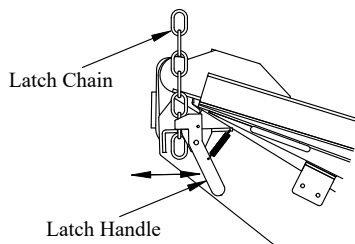

Figure 17: Platform latch chain.
10. **Verify** proper latch chain operation (Figure 17).